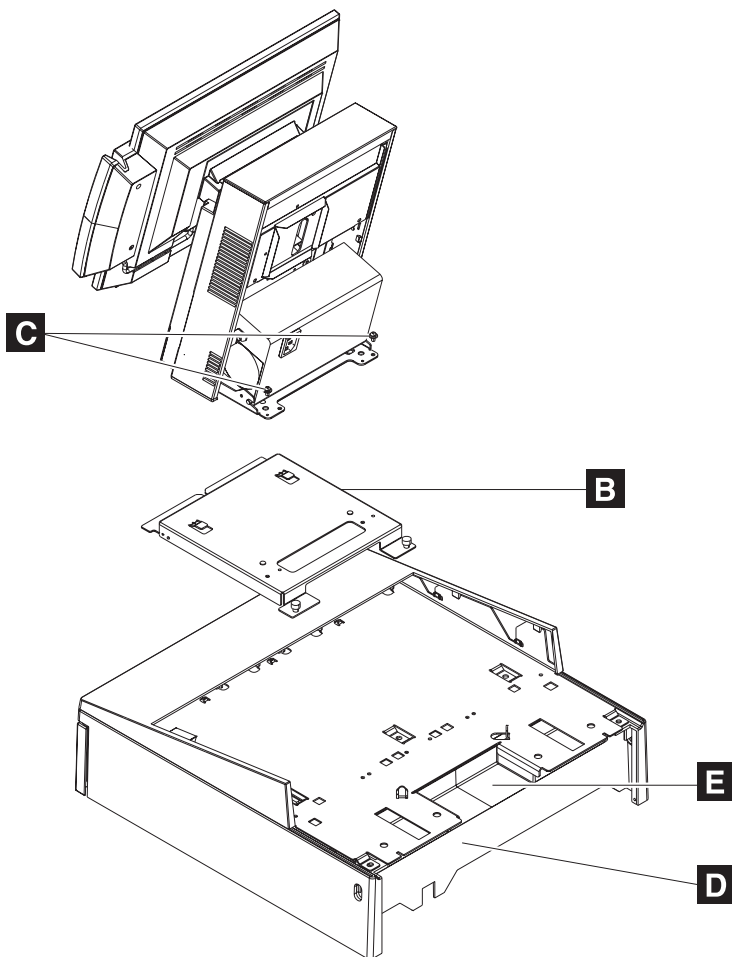

Figure 33. Attaching a mounting plate to center of cash-drawer integration tray
- c. Attach the system base to the mounting plate **B** with the screws **C**, as shown in Figure 33.